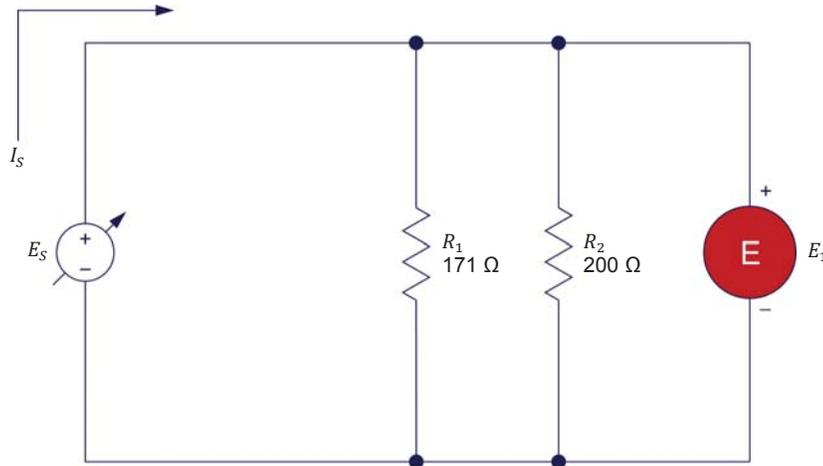

Figure 27. Measuring power in a circuit with resistors in parallel.
- 25.** Set up the circuit shown in Figure 27. To obtain the resistor arrangement of Figure 27, make the necessary connection(s) and switch settings on the **Resistive Load** module.
Set a multimeter to measure dc voltage and connect it across resistors  $R_1$  and  $R_2$ , as Figure 27 shows.